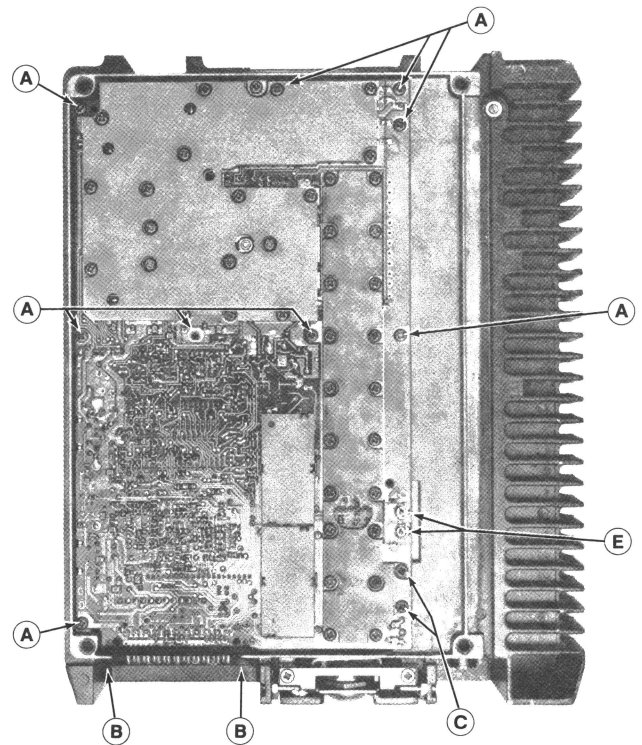
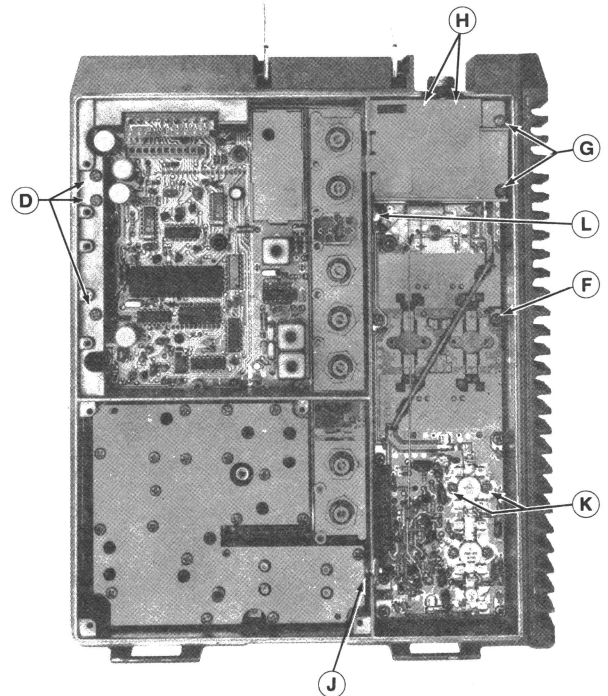

Figure 1 - Disassembly Procedure
Figure 2 - Disassembly Procedure Top View
2. Remove the nine retaining screws (Figure 1) securing the circuit board to the main frame.
3. Remove two retaining screws (B) securing systems connector J601 to front casting.
4. Remove the two brass screws (C) securing the receiver RF shield to chassis.
5. Unsolder the two feed through capacitor terminals (E) at holes H13 and H14 on printed wire pattern.
6. Turn over the radio and remove the three retaining screws (D) (Figure 2) securing the audio bridge amplifier, U601 and U602, and the 5 and 9 volt regulators U701 and U702 to the side of chassis.